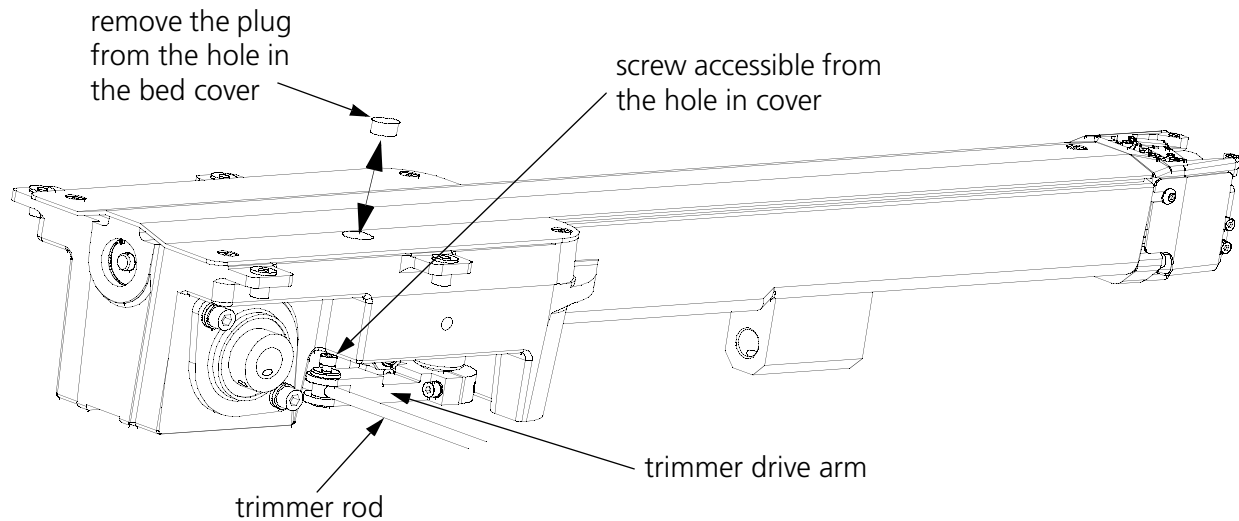

Figure 4-23
10. Remove the plug from the bed cover (see Figure 4-23) with the knives not in the home position.
11. Loosen the screw that is accessible through the hole in the bed cover (see Figure 4-23).
37. If the select position is not correct, remove the plug in the top of the bed cover and loosen the screw shown in Figure 4-23.